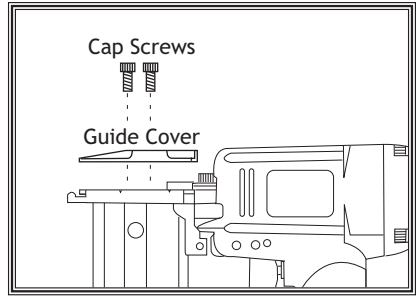

Figure 5. Removing guide cover.
4. Remove the two cap screws and driver guide cover from the nose assembly (see **Figure 5**).